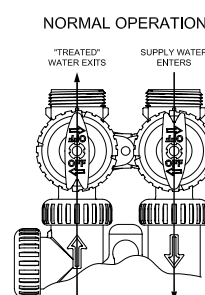

FIGURE 6
- Open the outlet valve of the filter, or if using optional bypass place to **NORMAL OPERATION MODE** (Fig. 6).